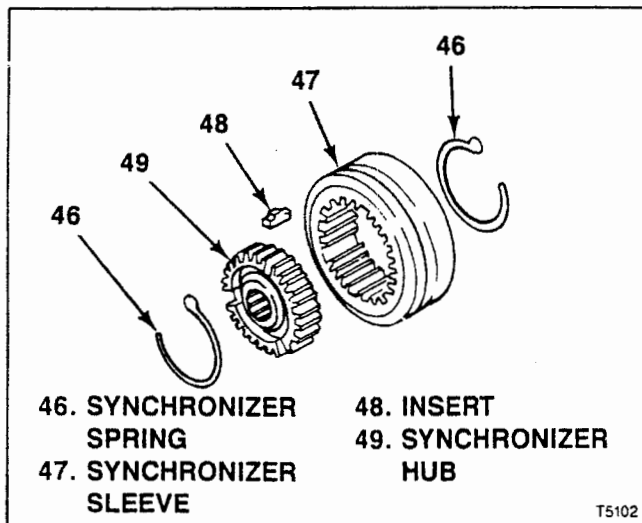

Figure 3-13. T5 WC 5th Synchronizer Assembly
- Push countershaft gear (116) rearward to force bearing cup (111) out of transmission case (117).
- Tilt front end of countershaft gear (116) up and remove from top of transmission case (117).
- Push bearing cup assembly (112) out of transmission case (117) and remove o-ring (113) from bearing cup (114).
- Use suitable puller to remove bearing cones (115) from countershaft gear (116) if necessary.
3-19. DISASSEMBLY OF T5 WC 5TH SYNCHRONIZER ASSEMBLY. Mark synchronizer sleeve (47) and hub (49) so that clutch teeth and faces can be assembled exactly as they were originally. Sleeve and hub are a matched set, selected at manufacture. Disassemble as follows (see figure 3-13):
- Unhook and remove springs (46).
- Slide sleeve (47) from hub (49), freeing inserts (48).